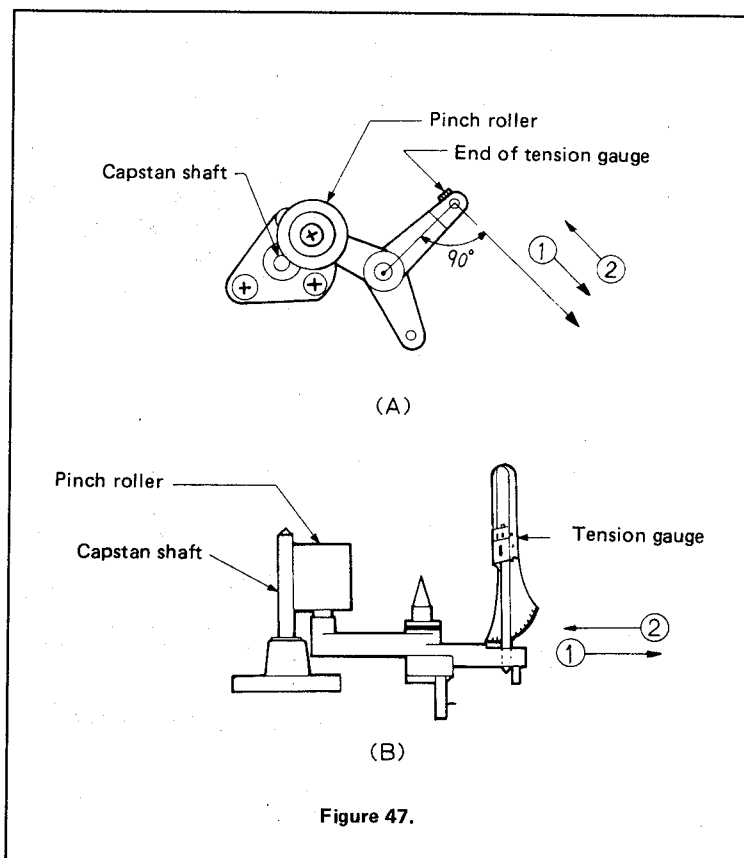

Figure 47.
4. Using a tension gauge, pull the pinch roller in the direction reverse to its pressure-applied direction, so that it moves apart from the capstan shaft. See Fig. 47-(A).
6. See that the reading is within 750 to 1100 gr. (specified value). See Fig. 47-(B).